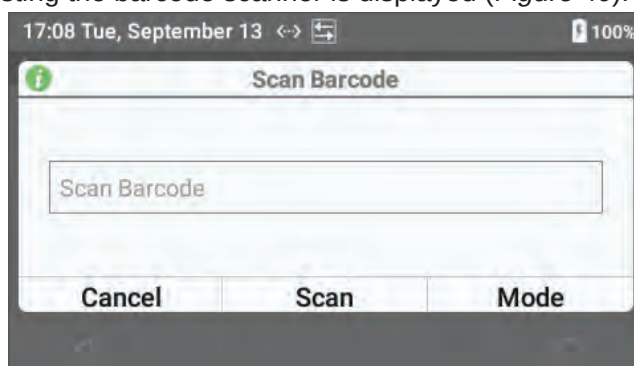

Figure 40: Barcode Scanner Test
- 2 A dialog box for testing the barcode scanner is displayed (Figure 40).